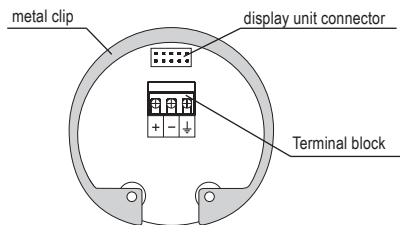

Fig. 32: Inside view of screw terminals of the level meter with current output GRLM-70_--_I
5. Connect the cable to the screw terminals according to the diagram in Fig. 32 or 34. Firmly tighten the terminals and the cable outlet. Tightening torque see. Technical parameters p. 36.
6. If the level meter with Modbus is involved as a terminal for RS-485, we recommend (to avoid reflections on the line) to connect 120 Ω termination resistor. This is done by moving a small lever of the switch marked 120 Ω to the ON position. On the level meters connected to the line RS-485 as an intermediate device, the termination resistors are not connected (switch remains off) in Fig 32.
In the event of strong ambient electromagnetic interference, paralleling of conductors with power distribution, or for distribution to distances over 30 m, we recommend grounding the level meter (see above) and using a shielded cable. Ground the shielding of the cable on the side of the power supply, or the shielding is possible to connect only on inside pin of the level meter marked  see fig. 32 and 34 (the shielding of the cable is always connected in a single location).